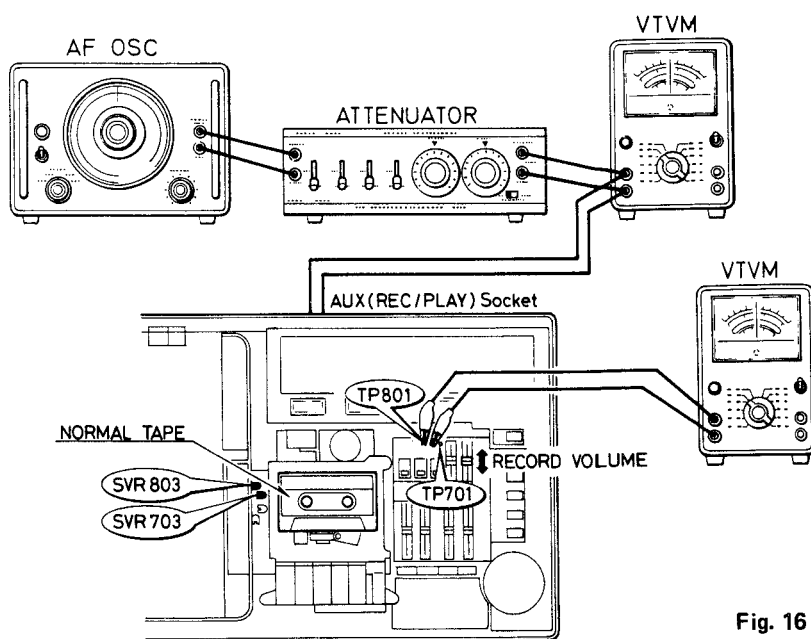

Fig. 16
3. Apply 1 kHz -10dB (100mV) signals to the unit at the AUX terminal from the AF oscillator via the attenuator. Set the unit in the recording mode. (Fig. 16)